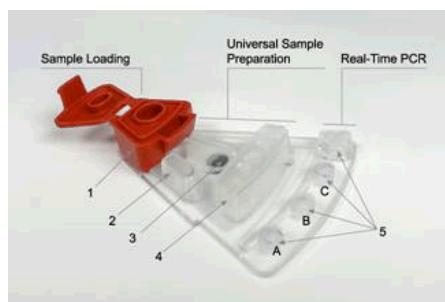

Figure 1. Top View of a PIE
The Revogene automates PrC homogenization, dilution, lysis, DNA amplification and detection of the amplified PCR product. User intervention is only required to transfer sample buffer from the Sample Buffer Tube (SBT) into the PIE and insert the PIE into the Revogene carousel. Each Revogene Check PIE is a fully integrated closed device into which sample buffer is dispensed and processed through different microfluidic chambers and channels, which allows for PrC processing (i.e. homogenization, dilution and lysis) and subsequent real-time PCR steps (Figure 1). The sample buffer is transferred by centrifugation from one chamber to the next in sequence.
6. Discharge completely the SB volume into the sample loading chamber of the PIE (Figure 1). Make sure not to touch the outer edges or the bottom of the sample loading chamber with the DTT.